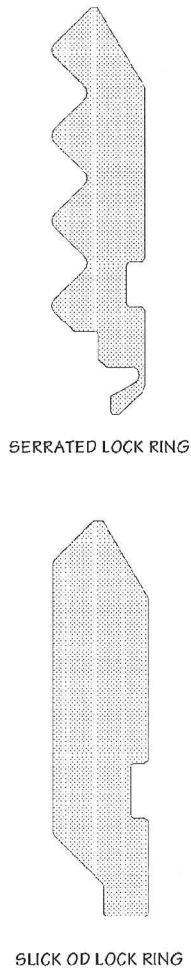
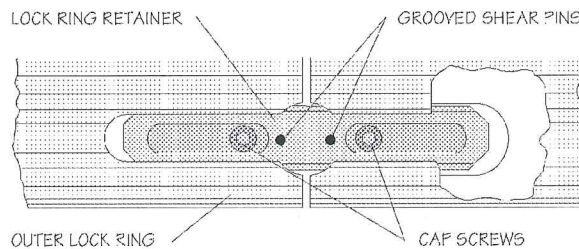

Figure 9. Side view of the two different style Seal Assembly outer lock rings
Figure 10. Outer lock ring detail
1. Refer to **Figure 9** and **Figure 10** for identification of the components of the Seal Assembly outer lock ring (outer lock ring). Record the part number and serial number of the outer lock ring for the permanent well file.